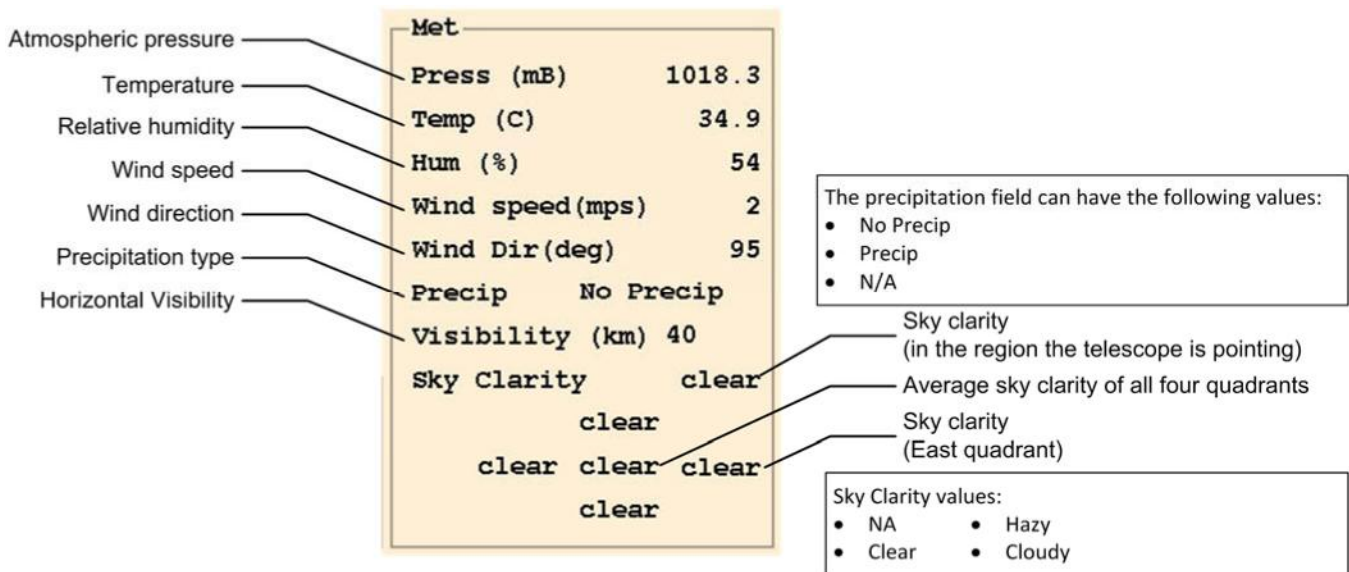

Figure 4-1: Labeled diagram of a portion of the Ratgui main window showing weather information
4. **Verify Weather Measurements** – Ensure that the meteorological data displayed accurately reflects current weather conditions outside the shelter (Figure 4-1). Note that if the values for Sky Clarity are NA, then most likely the Sky Camera software on the Camera computer is not running.